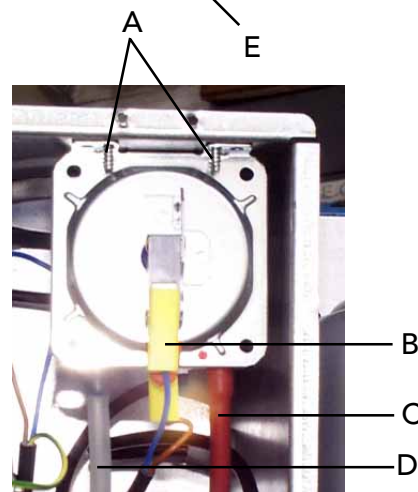

Fig. 38
7.06 Air pressure switch (fig. 38)